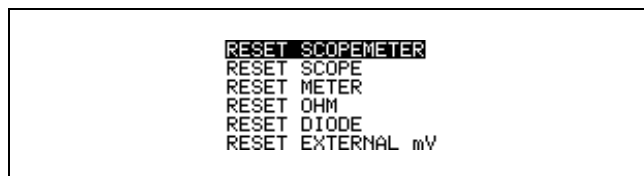

Figure 6-12. Reset Menu Window
2. Press **F5** to open the RESET menu (see Figure 6-12).